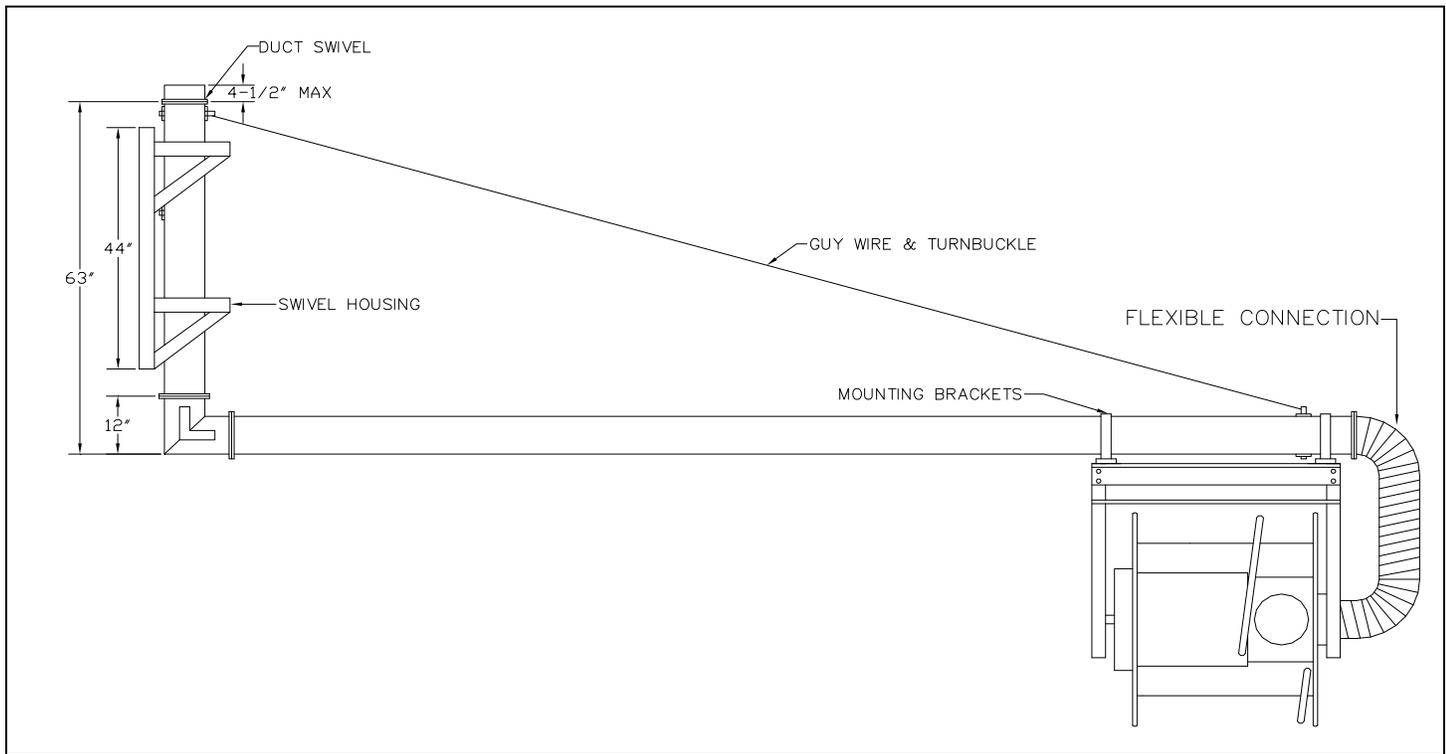

FIG 1
1. Layout the boom sections similar to FIG1.
2. Using a forklift or other device, mount the swivel housing to the wall or to another suitable support using the (8) provided holes. NOTE: To insure proper operation of the boom, it is important to mount the swivel level, and use all the provided mounting holes.